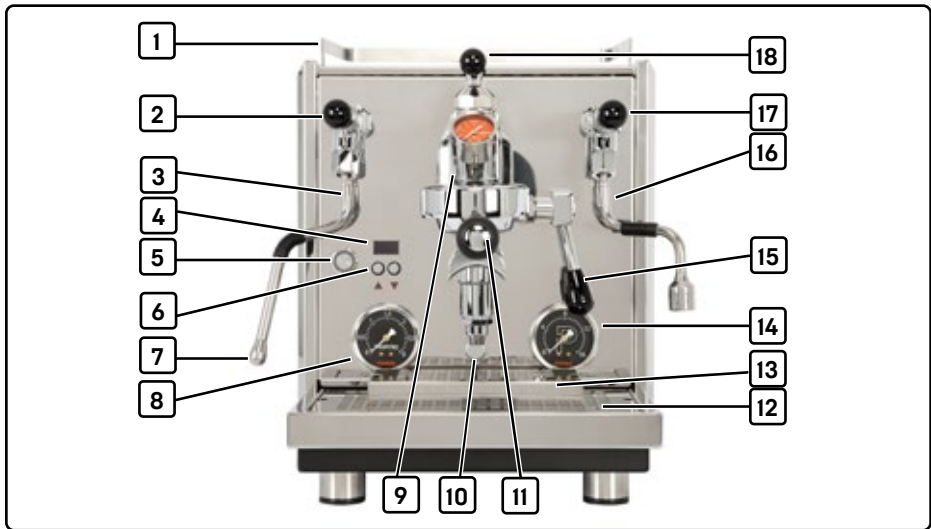

Fig. 1 Structure and components
1. Press the main switch (1, Fig. 1).